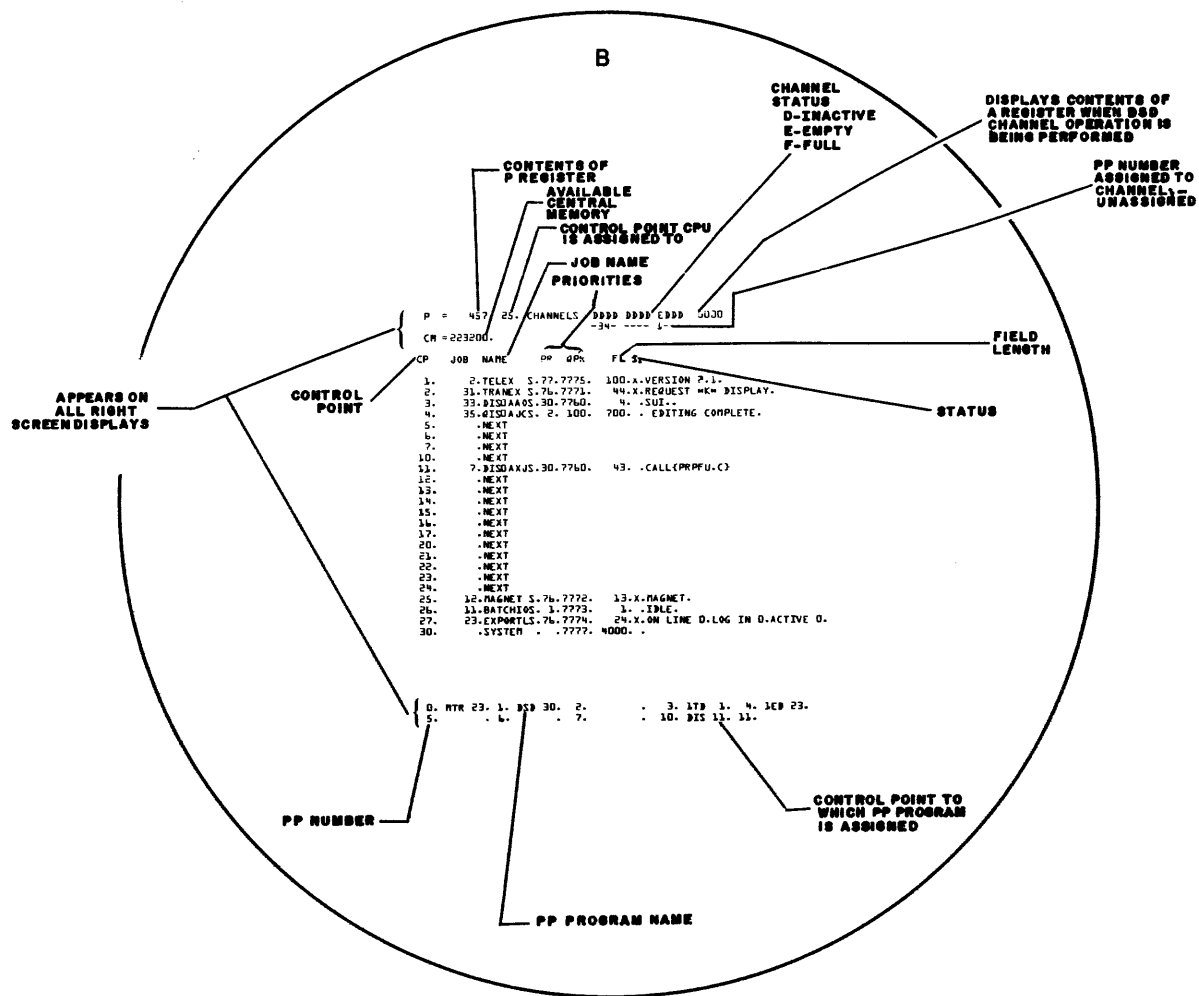

Figure 4-2. Job Status (B) Display
Figure 4-2 illustrates the job status (B) display.